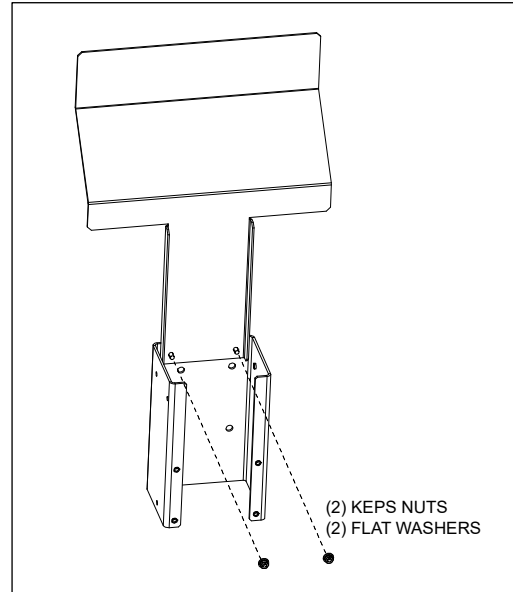

Figure 13
2. Attach the heat deflector panel to the lower radio bracket using two Keps nuts and two flat washers (Figure 13).